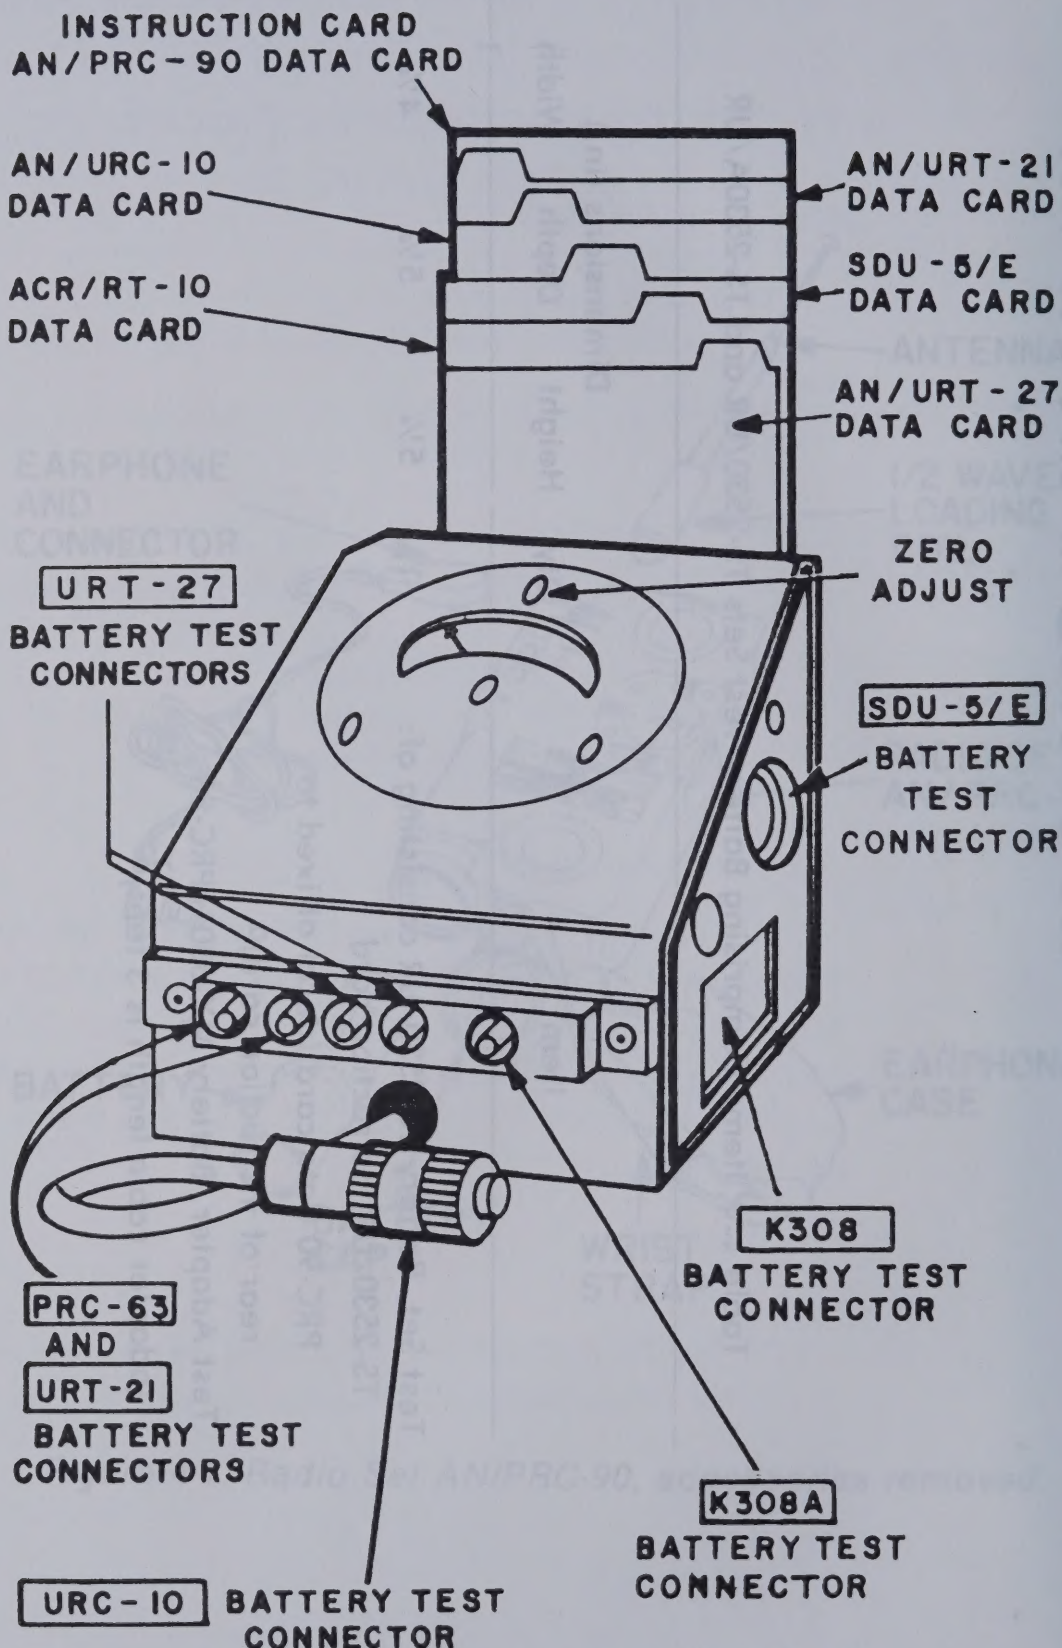
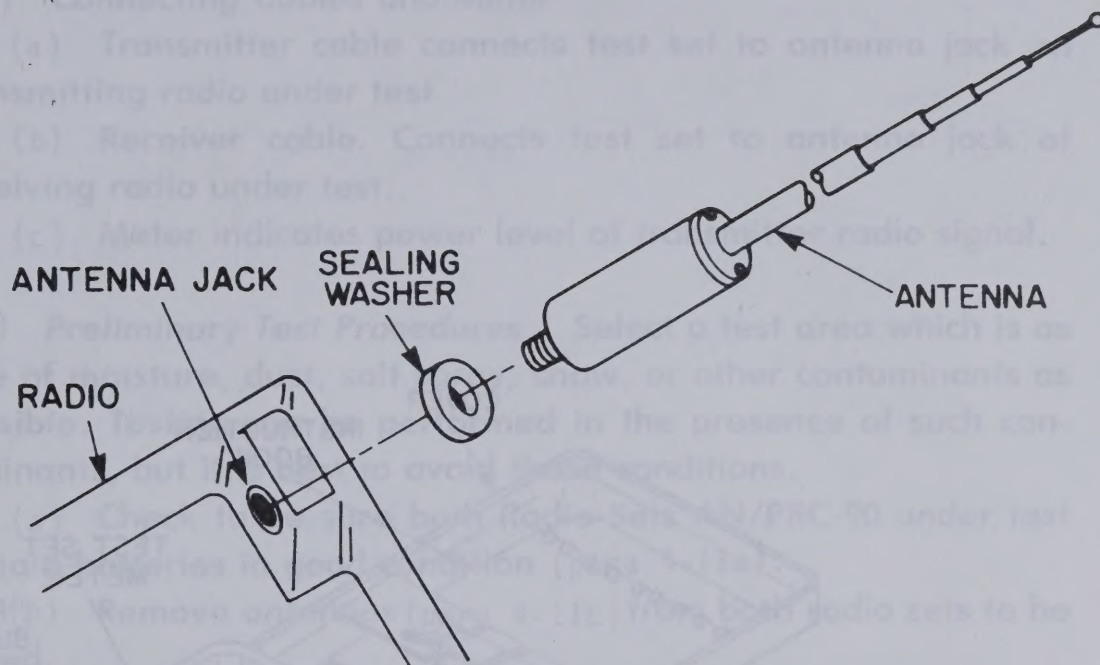

Figure 4-2. Battery Test Set TS-2530/UR
Figure 4-7. Antenna Removal from Radio Set AN/PRC-90.
(a) *General.* Battery Test Set TS-2530/UR with Battery Test Adapter MX-8801/PRC-90 or Battery Test Set TS-2530/UR are used to test Battery BA-1568/U. Refer to TM 11-6625-2631-14 for test set operating and maintenance instructions. Table 4-4 lists test set components. Figures 4-2 through 4-5 illustrate the test equipment and connecting parts.
(c) *Controls and Indicators*(fig. 4-2). Test set operating controls and indicators are shown in figure 4-2 and described in table 4-5. Refer to TM 11-6625-2631-14 for detailed test set instructions.
(1) Cut old strap assembly and remove all attaching parts. Dispose of worn parts and select new parts for reassembly.
(2) Attach battery cap, and battery cap retaining strap, and earphone case. Screw the battery cap onto the radio.
(3) Thread new strap through spaces between the radio case and the two cylindrical pins.
(4) Fold ends of wrist strap as shown in figure 4-2. Punch holes two places and apply a coat of varnish to prevent fraying. Allow to dry.
(5) Insert and swage grommets supplied with new wrist strap.
c. Antenna Assembly (fig. 4-7)
(1) Remove antenna as follows: